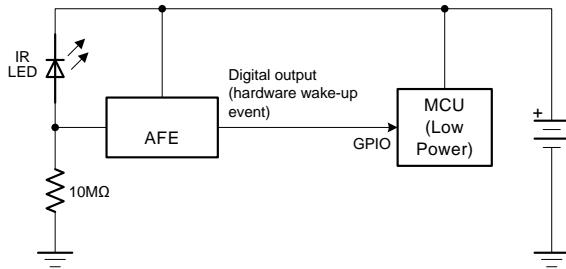

Figure 4. Coin Cell Battery Powered IR Receiver
Infrared (IR) communication is inherently immune to long as there is a line-of-sight path between the transmitter and the receiver. It is also one of the lowest cost communication schemes. This makes it a good choice for implementing wireless communications in applications such as utility metering. A common system topology is to use a power efficient IR receiver analog front end (AFE) that is always on and wakes up the host only when there is a valid IR signal detected as shown in Figure 4.
Figure 4 shows the IR receiver system block diagram. The host MCU is normally in the shutdown mode (during which the quiescent current is less than 1 μ A) except when data is being transferred.